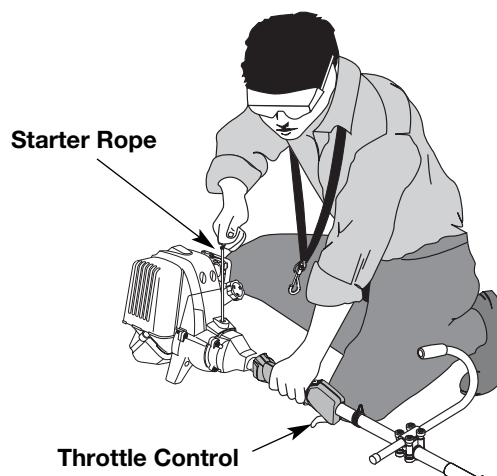

Fig. 22
**WARNING:** Avoid accidental starting. Make sure you are in the starting position when pulling the starter rope (Fig. 22). To avoid serious injury, the operator and unit must be in a stable position while starting. Make sure that any Add-On item is installed correctly and secure before starting the unit.
4. With the unit in the starting position, **do not squeeze the throttle control** (Fig. 22). Pull the starter rope out a short distance, until you feel some resistance. This is usually around 2-4 inches. Then pull the rope smoothly and briskly. Repeat this 5 times. The engine should start.